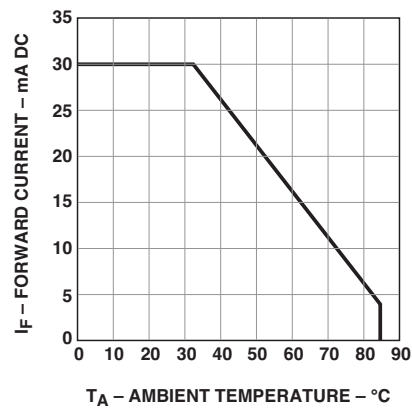

Figure 4. Maximum forward current vs. ambient temperature based on  $T_J \text{ max.} = 115^\circ\text{C}$ .
1. Derate linearly as shown in Figure 4.